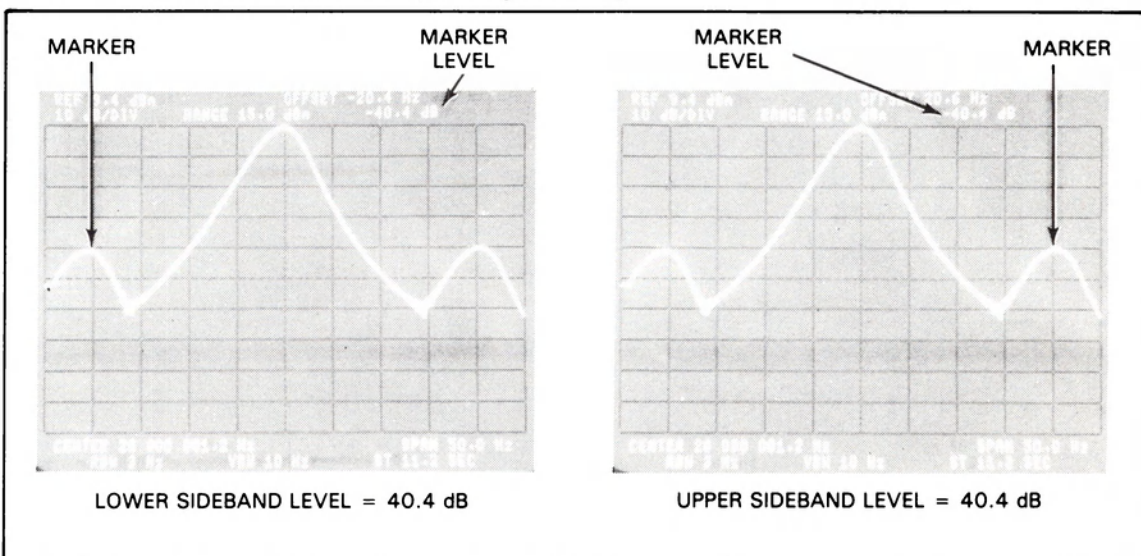

Figure 7-29. Upper and Lower Sideband Relative Levels
- g. Measure the upper and lower sidebands and record their relative levels (dBc) on the Performance Test Record card. (See Figure 7-29)